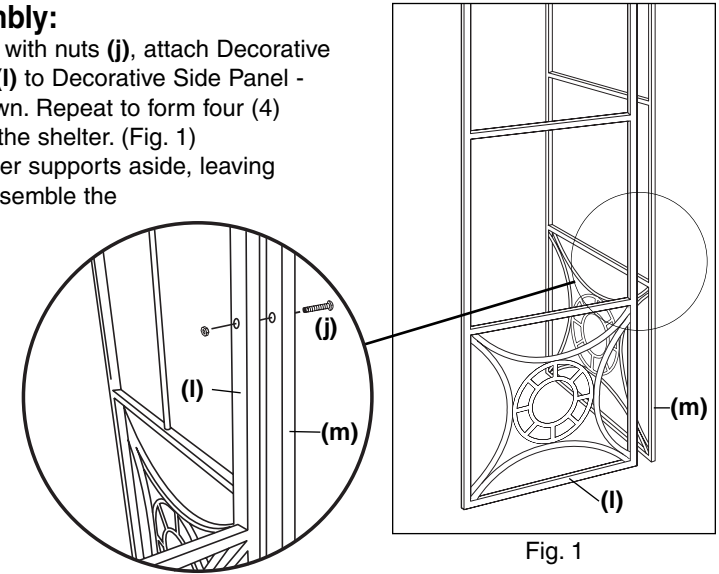

Fig. 1
- Using 1 1/2" screws with nuts (j), attach Decorative Side Panel w/T-bar (l) to Decorative Side Panel - flat (m) side as shown. Repeat to form four (4) corner supports for the shelter. (Fig. 1)